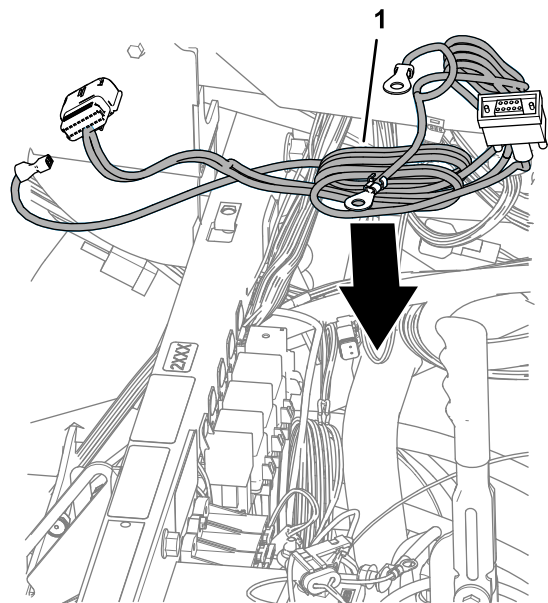

Figure 72
1. Align the modem power harness to the machine as shown in Figure 72.